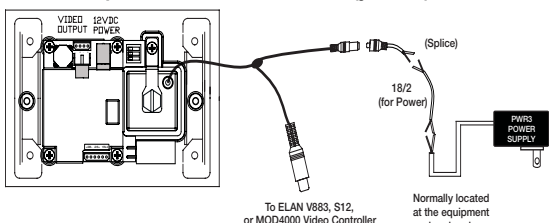

Figure 4: DSC3 Without VBRM
2. Remove the camera power connector, then strip back the insulation on the red and black camera power wires and connect the corresponding red and black conductors of the 18/2 AWG wire as shown in Figure 4.
3. Remove the connector from the PWR3 Power Supply. Figure 4.
4. Tie the red wire of the 18/2 AWG to the black/white wire of the PWR3. Tie the black wire of the 18/2 AWG to the black wire of PWR3 Power Supply (see Figure 4.)